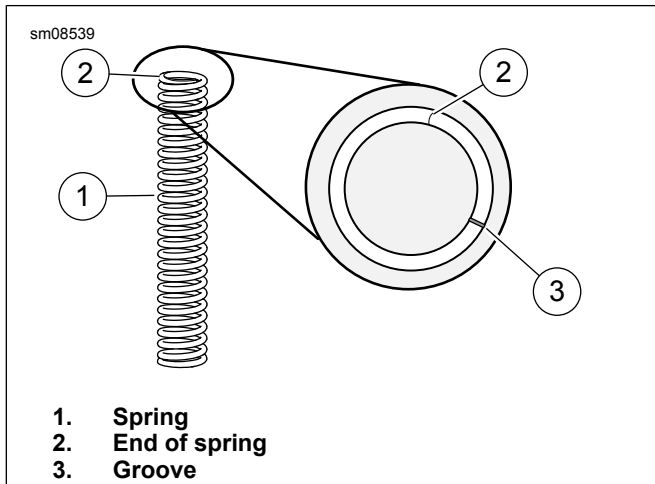

Figure 3. Left Side Spring Marking
See Figure 3. The left side spring has a groove (3) etched on one of the ends of the spring (2).